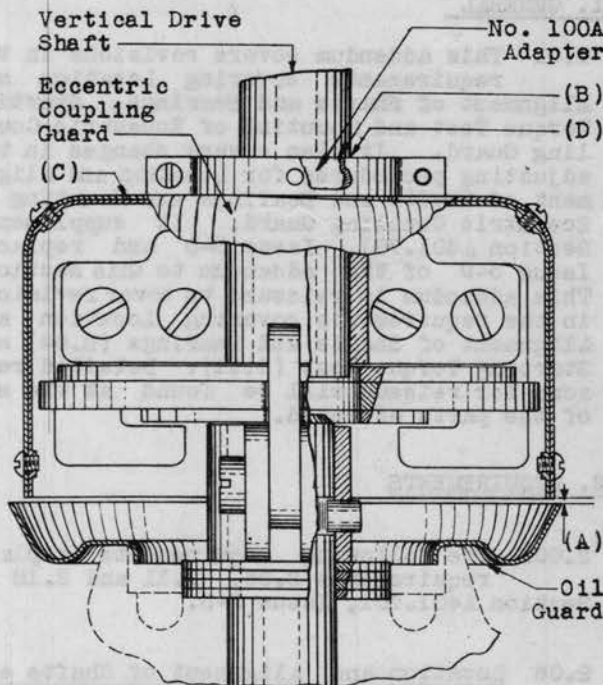
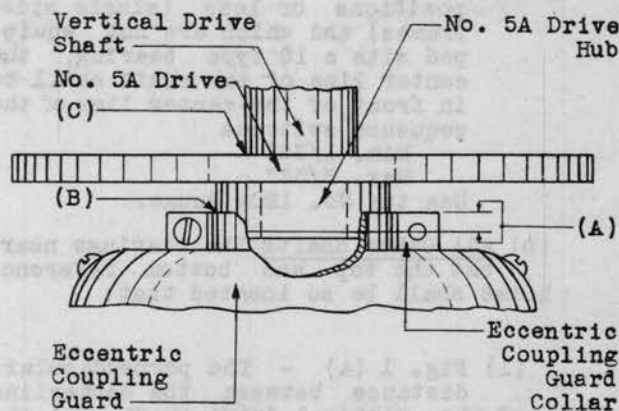

Fig. 2
Fig. 3
(a) Fig. 2 (A) - The vertical clearance between the bottom edge of the eccentric coupling guard and the upper edge of the oil guard shall be $1/16"$ $\pm$ $1/64"$. Gauge by eye.
(b) Fig. 2 (B) - The upper surface of the eccentric coupling guard collar shall be approximately flush with the upper surface of the associated No. 100A adapter unless the adapter mounts directly against the No. 5A drive hub in which case the coupling guard collar may extend up above the adapter. Gauge by eye.
(c) Fig. 3 (A) - When the eccentric coupling guard mounts on a No. 5A drive hub it shall overlap the straight sides of the hub by approximately $5/32"$ except in cases where the No. 100A adapter is mounted directly against it. Gauge by eye.
(1) Fig. 2 (C) - The joints where the eccentric coupling guard halves overlap.
- (2) Fig. 2 (D) - The joints between the eccentric coupling guard collar and the No. 100A adapter (where used) and the slots in the collar.
- (3) The slots in the No. 100A adapter and the joint between the adapter and the shaft.
- (4) Fig. 3 (B) - The joints between the eccentric coupling guard collar and the No. 5A drive (where used to mount the coupling guard) and the slot in the collar.
- (5) Fig. 3 (C) - The joint between the No. 5A drive and the shaft.